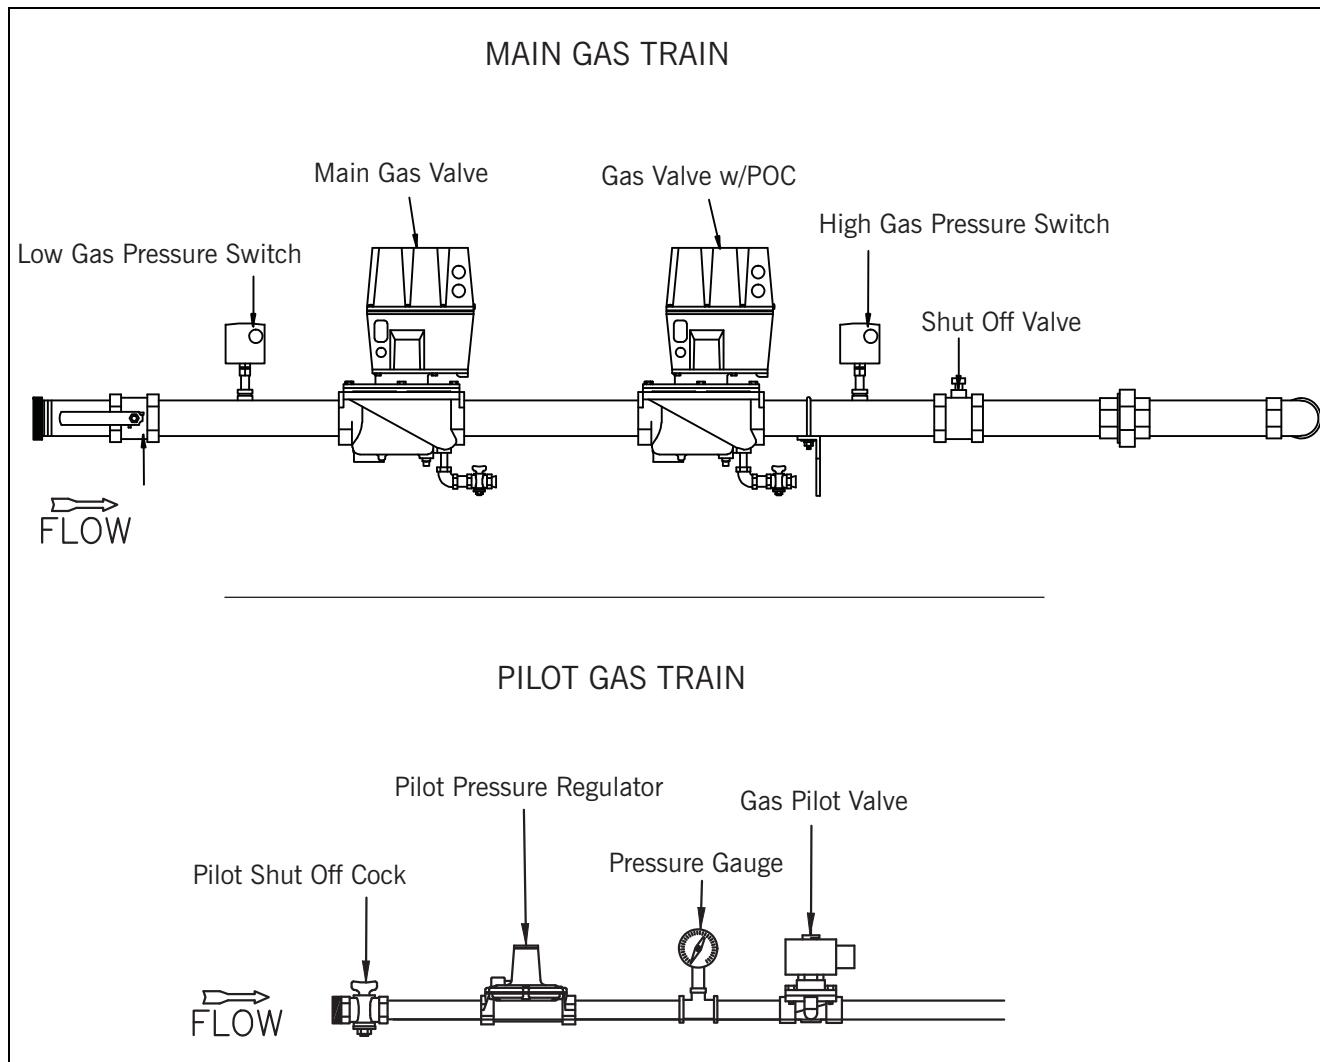

Figure 2-9 Gas Train
5. Forced Draft Fan Motor Starter (Figure 2-9 & 2-10): Energizes forced draft fan (blower) motor.
See Figure 2-9. Depending upon the requirements of the insurance carrier or other governing agencies, the gas flow control system components may vary. Refer to the Dimension Diagram (DD) prepared by Cleaver-Brooks for your specified installation.